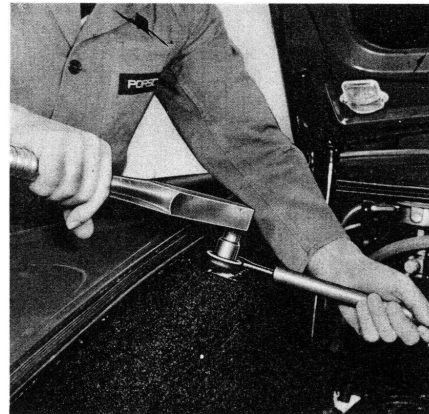

Fig. 10
7. Install hex nut on the shockabsorber strut and torque to 8,0 mkp (58 lb-ft); use new safety plate and make sure that its lip points up (see Fig. 10).